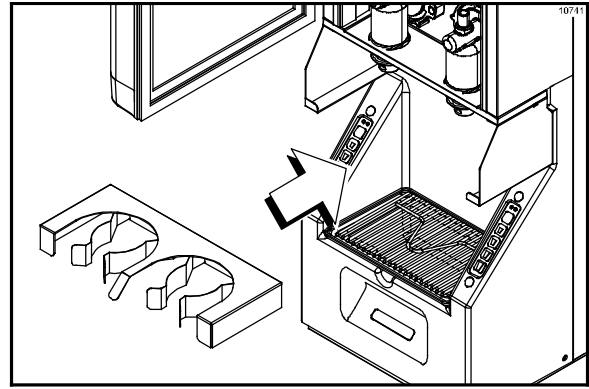

Figure 15
14. Install the cup holder. (See Figure 15.)